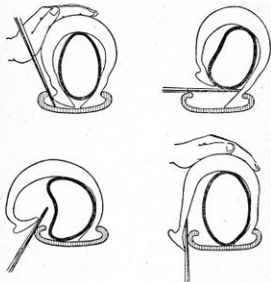

Figure 90.—Removing a Clincher Tire.
*Tires.*—The tires may be removed, as shown in Figure 90. First, jack the wheels clear of the road. The